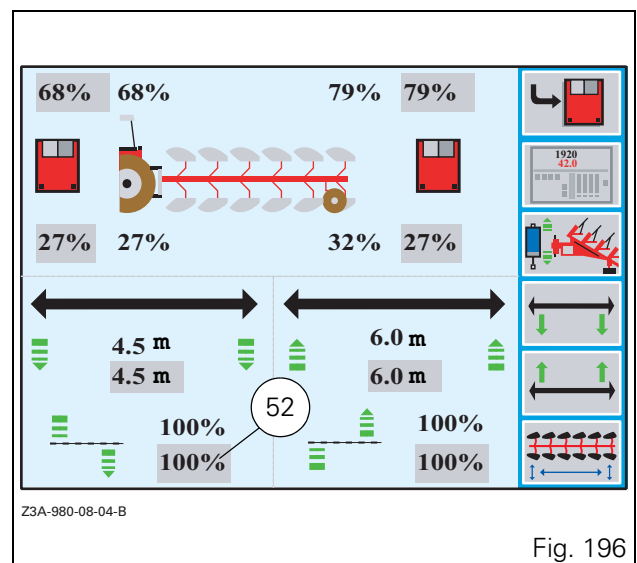

Fig. 196
- Validate by pressing the encoder. The value is displayed in black (52 Fig. 196).